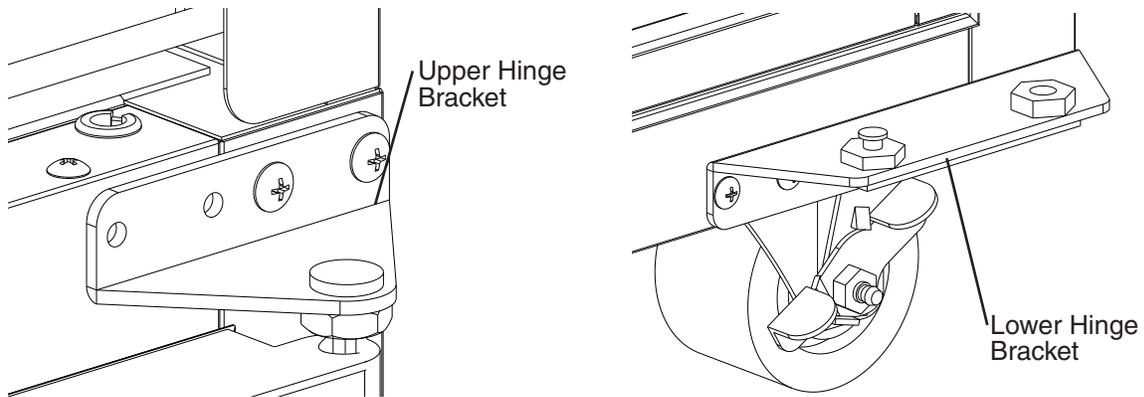

Fig. 42
8) Close the door, then remove the screws securing the upper hinge bracket. See Fig. 42.